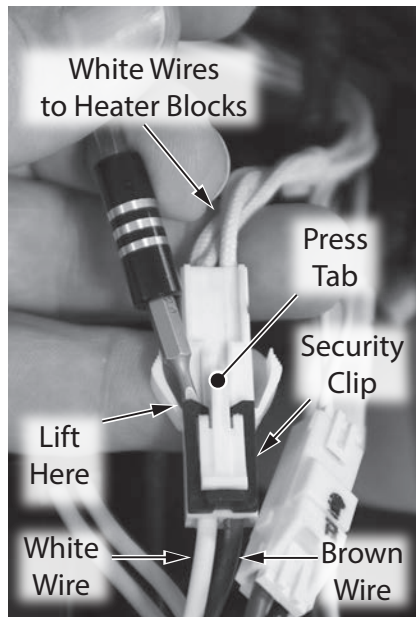

Figure 19 - Wiring security clip removal
- 5 To disconnect, gently remove the security clip with a mini pick or fingernail. Push tab as shown in Figure 19. Separate the harnesses. Place security clip aside in a safe place for reinstallation.